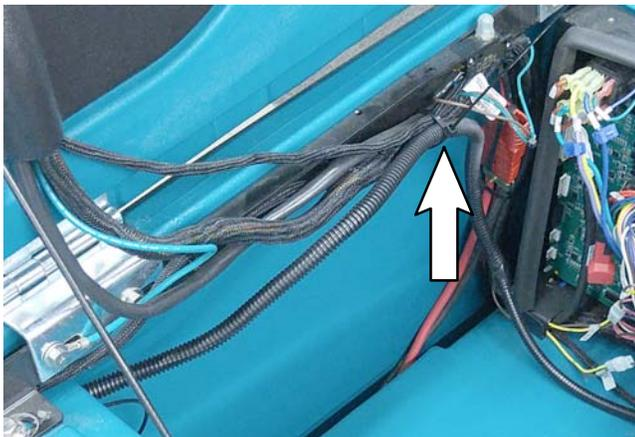

FIG. 13
14. Using cable-tie (11), secure the telemetry harness to main machine harness as shown (FIG. 13)